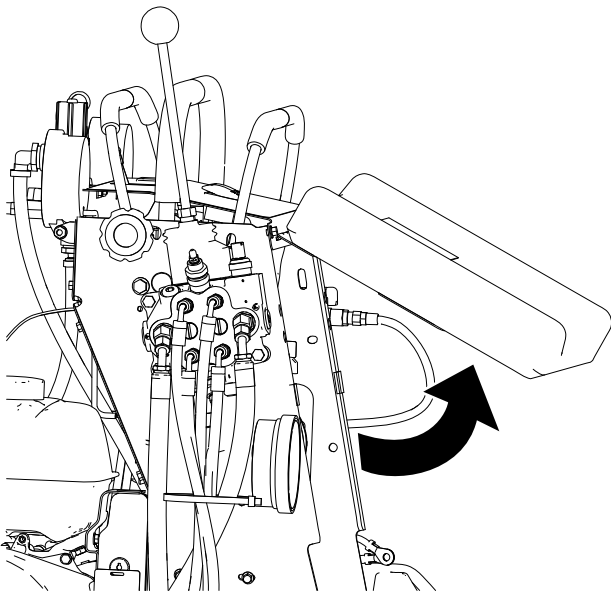

Figure 30
1. Lift up on the bottom of the cushion until you can pull it back and away from the machine (Figure 30).